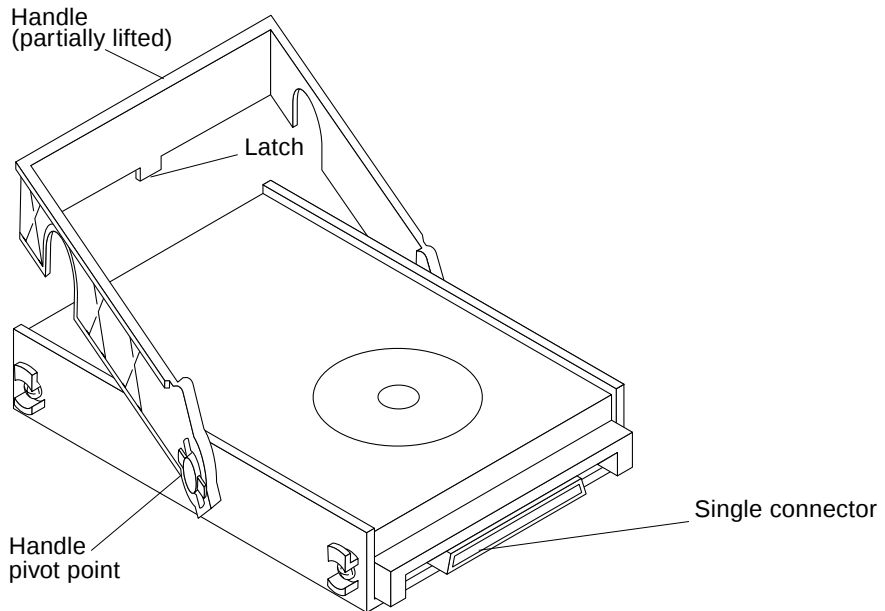

FIGURE 9-2 Single Connector Hard Disk Drive
- 4. Press the plastic latch located beneath the handle at the rear of the drive to release the handle (FIGURE 9-2).**